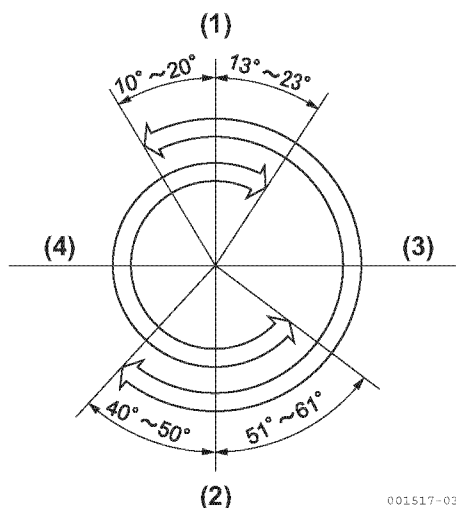

Figure 5-84
- Check the valve timing. Be sure that the opening and closing angles for both the intake and the exhaust valves are checked when the timing gear is disassembled (The gauge on the flywheel can be read). All JH4 series engines use the same valve timing procedure (**Figure 5-84**).